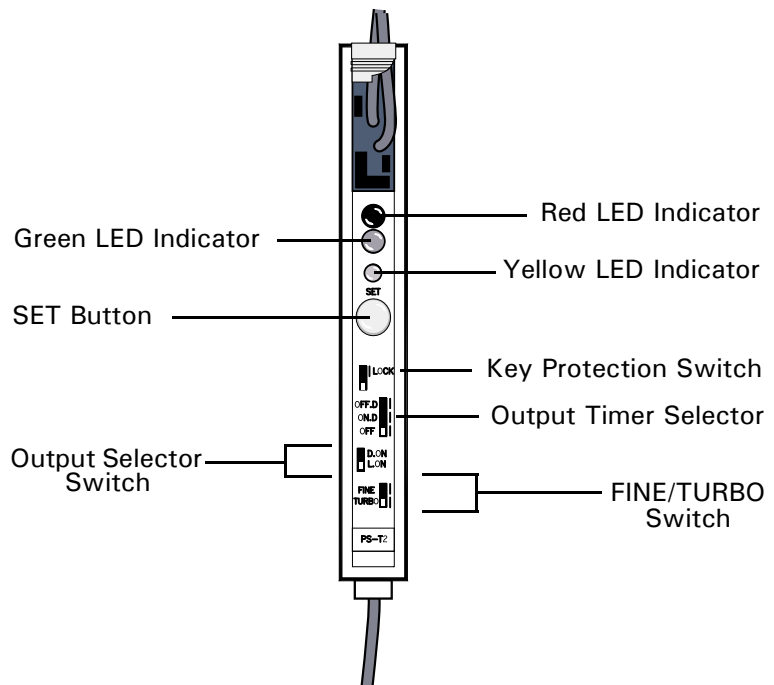

Figure 8
4. Set amplifier settings according to material and follower being used, refer to the following table and Figure 8.
5. Push **SET** button on sensor to set sensor for full indication. Yellow calibration indicator LED will light. See Figure 8.